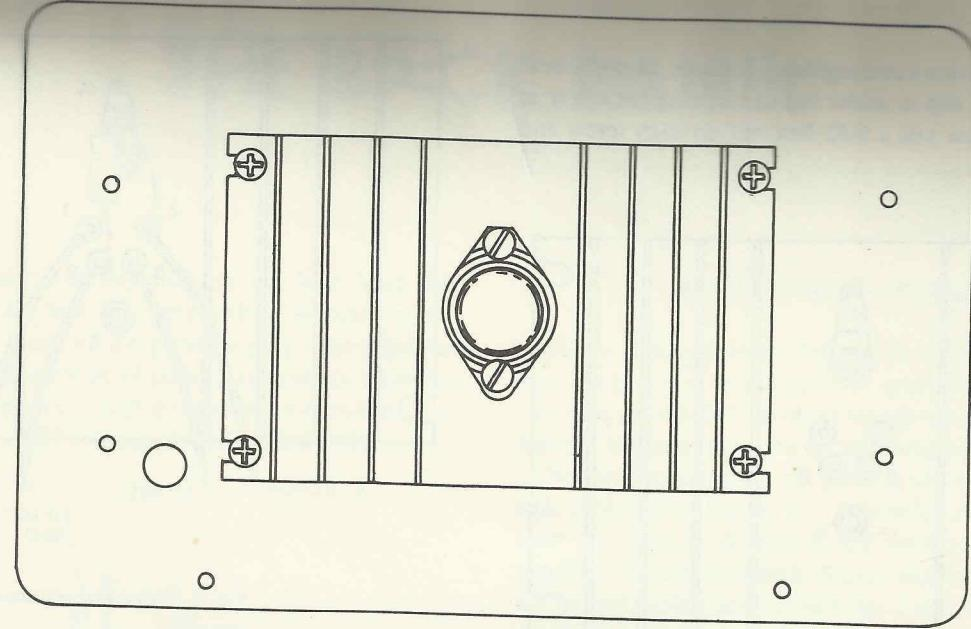

Fig. 9. The heat sink and the regulator mounted on the back panel.
(6) Wrap one end of the solid red wire around the end of pin 3 of the voltage regulator. Now place the heat sink on its side again and solder the red wire to pin 3 of the regulator (S1) ()
(7) Connect the positive lead of the 10 μ F capacitor to pin 2 of the voltage regulator (NS). Wrap the capacitor lead around the end of the pin to hold it in place. Connect the other lead to solder lug A (S2) ()
(8) Wrap the end of the red stranded wire around the end of pin 2 of the regulator. Place the heat sink on its side and solder the red stranded wire and the capacitor to terminal 2 of the regulator (S2) ()
(9) Carefully inspect the regulator to be sure that no solder has run down the pins leaving a large glob of solder. If there is a large glob of solder, heat the pin with your soldering iron and let the solder roll off the pin onto your iron ()
(10) Insert the 7/8" rubber grommet in the large hole in the back panel (PA62). Place the back panel so that the 3/8" hole is at the lower left ()
(11) Now feed the leads soldered to the regulator through the grommet and mount the heat sink on the panel as shown in Fig. 9, using four 3/8" long 6-32 Phillips head screws. Place a lockwasher and nut on each screw. Tighten the four mounting screws and nuts to hold the heat sink in firm contact with the back panel ()